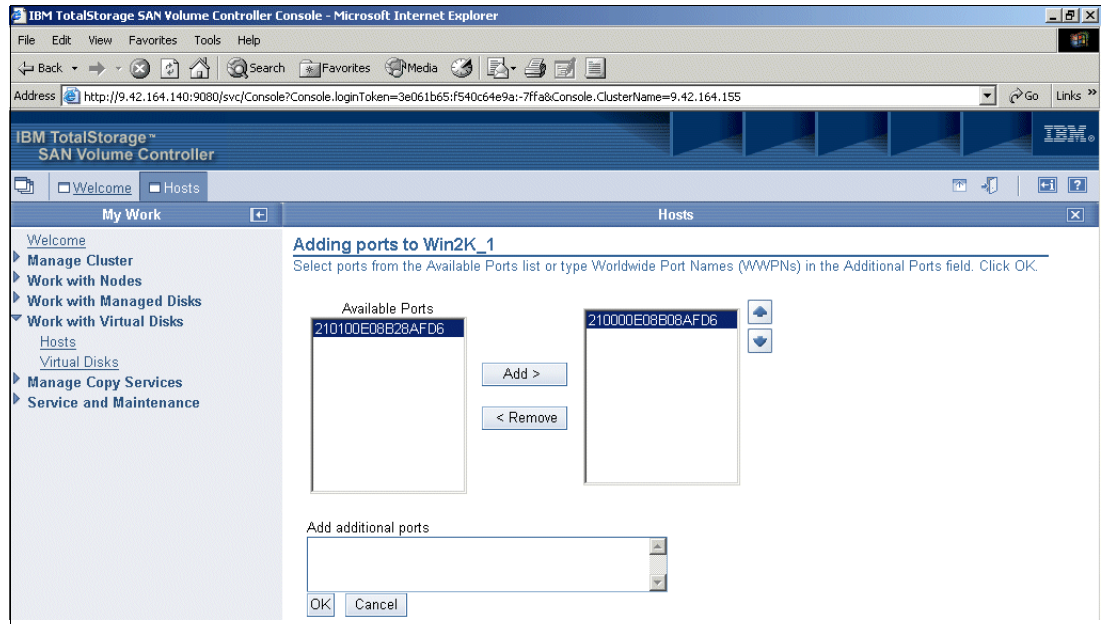

Figure 9-56 Adding ports to a host
2. From the Adding ports to *hostname* panel (where *hostname* is the host you selected in the previous step), select the desired **WWPN** from the Available Ports list (one at a time) and click **Add**. After you select all the desired WWPNs, click **OK**. See Figure 9-56.